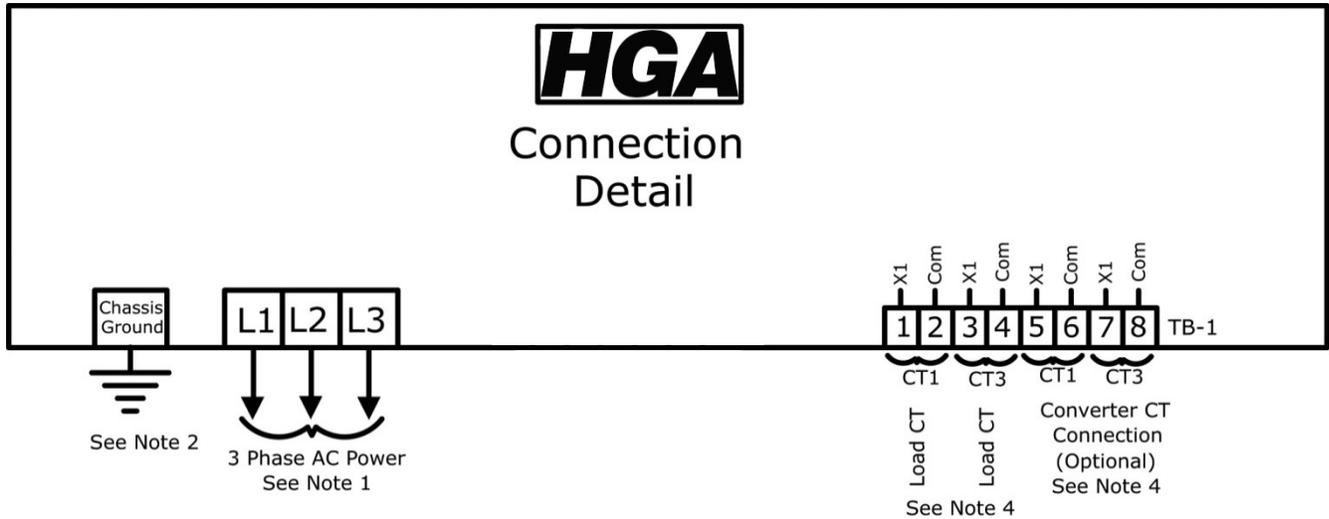
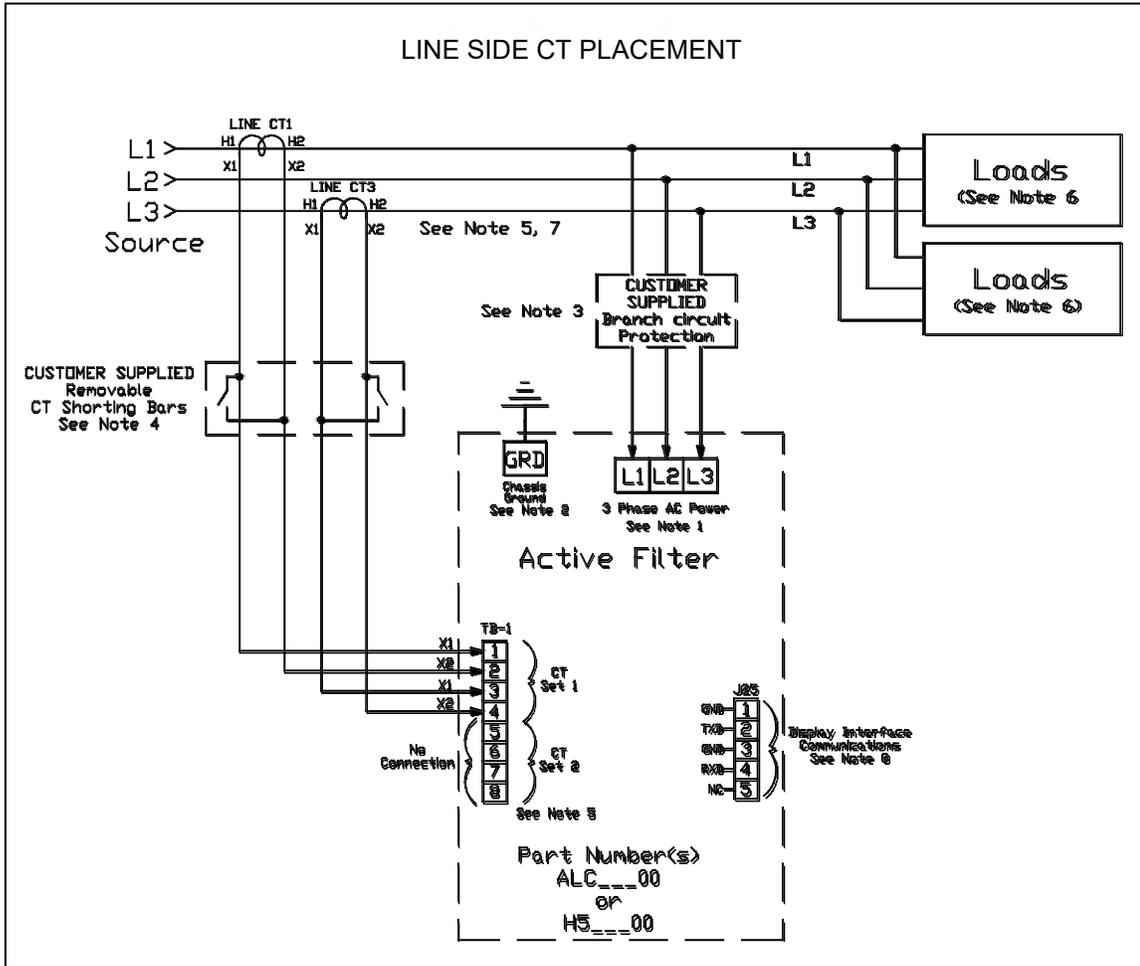

Figure 8: Load Connection Diagram
Figure 9: HGA 480 V Single Unit Line Side / Bus Applied Connection Diagram
It is necessary for the HGA to monitor the current in Phase “A” (L1) and Phase “C” (L3). Stand-alone HGA filters are designed for Line Side current transformer (CT) placement as shown in Figure 8. It is important that both CTs are on the same side of the HGA. The CTs should be centered around the conductor. Optional Load Side CT placement is available for single units as shown in Figure 9.